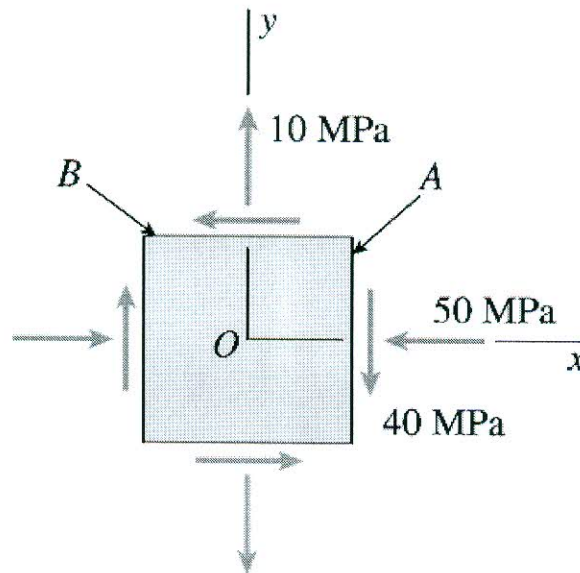

Figure 5
4. At a point on the surface of a generator shaft the stresses are $\sigma_x = -50\text{MPa}$, $\sigma_y = 10\text{MPa}$ and $\tau_{xy} = -40\text{MPa}$ as shown in Figure 5. Using Mohr's circle determine the following: